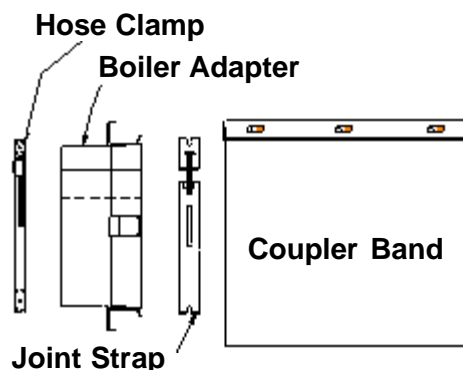
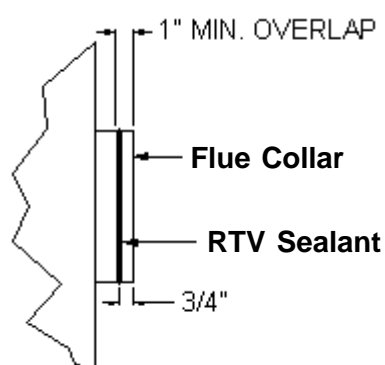
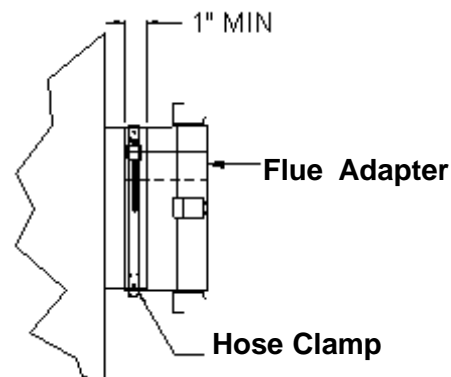

Figure 1
Figure 2
Figure 3
1. Remove the clamps and coupler band from the adapter, *figure 1*. The adapter must clamp onto the flue collar with no less than 1 inch overlap for proper fit. Mark or scribe flue collar prior to fitting the adapter, *figure 2*.
2. All joint surfaces **must** be cleaned with alcohol wipes before applying sealant. Apply 1/4" thick bead of RTV sealant around the outside of flue collar approximately 3/4" from the edge, *figure 2*. Place the adapter over boiler collar lining up the edge of the adapter to the scribe marks, then tighten the hose clamp snugly, *figure 3*. On horizontal flue collars, the split side of the boiler adapter should be installed along the top of the flue collar.